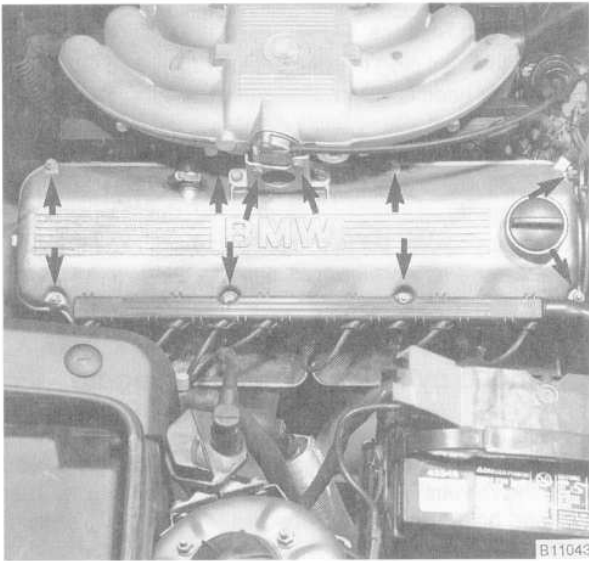

Fig. 4. Intake manifold support bracket and cylinder head cover mounting nuts and bolts (arrows).
12. Remove the intake manifold support bracket. Remove the cylinder head cover mounting nuts. See Fig. 4. Disconnect the PCV hose from the cover and remove the cover.